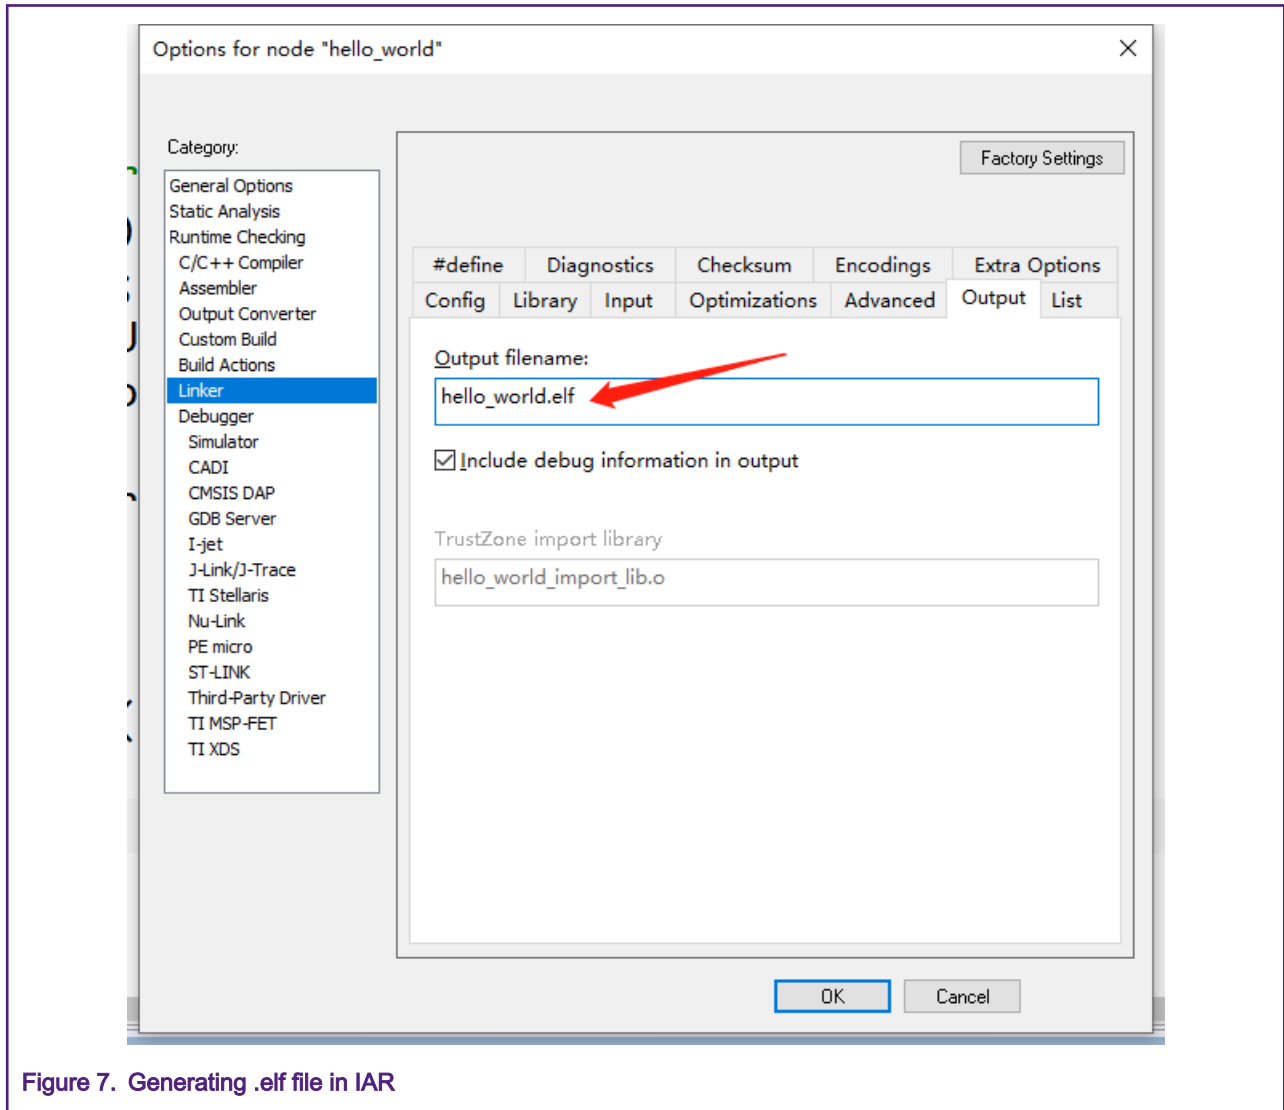

Figure 7. Generating `.elf` file in IAR
- Set the suffix of the generated file to `.elf`, as shown in Figure 7.